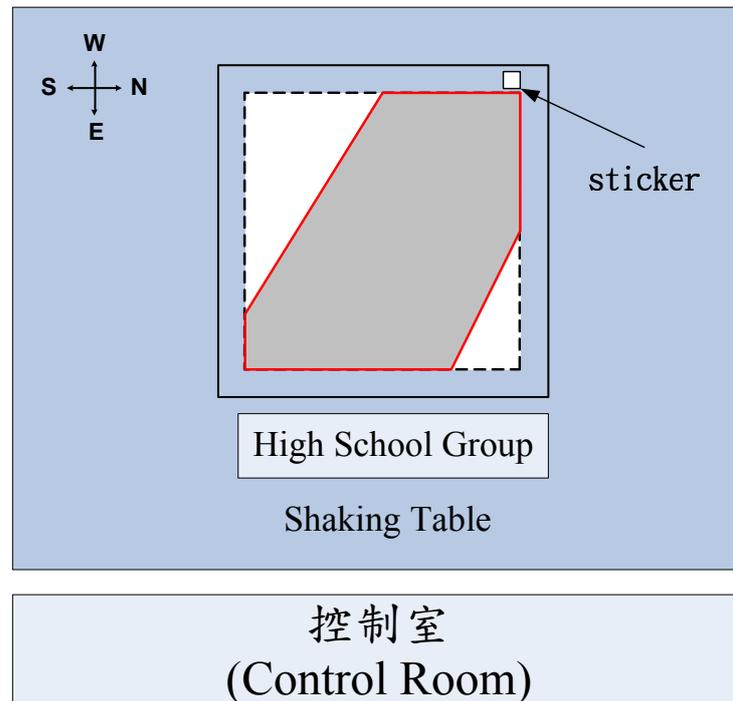

Figure 14. The orientation of the model fixed on the shaking table.
- 7.9 The side of the base board marked with a sticker is where the model should be built on. In addition, when mounting the model onto the shaking table, the sticker should be on the northwest corner (shown as Figure 14). If there is any question about the relative positions or directions shown in Figure 14, please ask the staffs/judges for assistance.
- 8.5 The mentioned directions are according to those specified in the lab. Figure 14 shows the directions and the orientation for mounting the models to the shaking table.